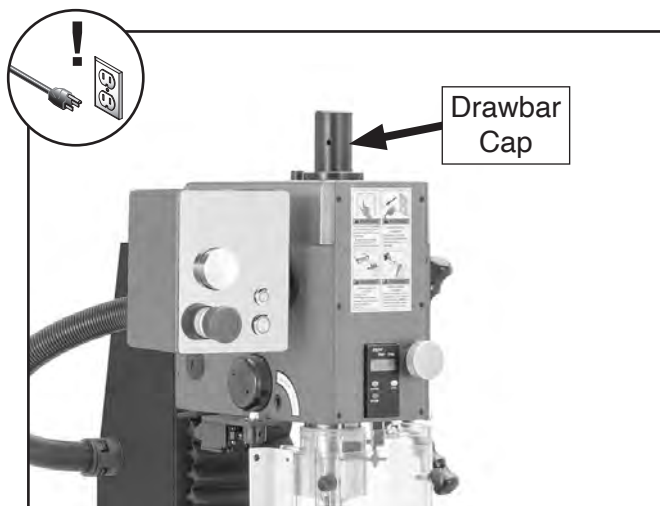

Figure 40. Location of drawbar cap.
2. Unscrew drawbar cap to remove (see **Figure 40**).